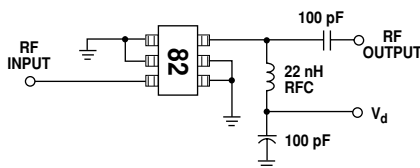
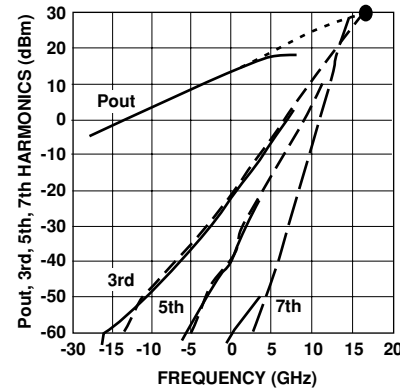
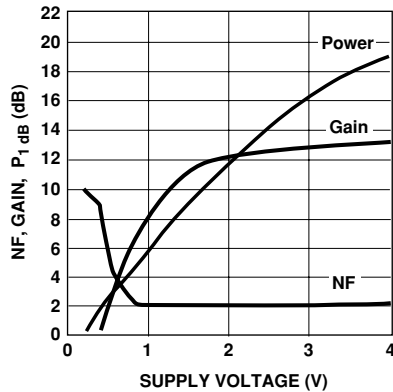

Figure 10. Test Circuit.
Figure 18. Intermodulation Products vs. Input Power. ($V_d = 3.0$ V)
Figure 19. Gain, Noise Figure, and Output Power vs. Supply Voltage.
- Guaranteed specifications are 100% tested in the circuit in Figure 10 in the Applications Information section.
The circuit shown in Figure 10 is used for 100% RF testing of Gain and Noise Figure. The test circuit is merely a 50Ω input/output PC board with a RFC at the output to apply DC bias to the device under test. Tests in this circuit are used to guarantee the NF_{test} and G_{test} parameters shown in the table of Electrical Specifications.
Like other active devices, the intermodulation products of the MGA-82563 increase as the device is driven further into nonlinear operation. The 3rd, 5th, and 7th order intermodulation products of the MGA-82563 are shown in Figure 18 along with the fundamental response. This data was measured in the test circuit in Figure 10.
While the MGA-82563 is designed primarily for use in +3 volt applications, the internal bias regulation circuitry allows it to be operated with power supply voltages from +1.5 to +4 volts. Performance of Gain, Noise Figure, and Output Power over a wide range of bias voltage is shown in Figure 19. (This data was measured in the test circuit in Figure 10.) As can be seen, the gain and NF are fairly flat, but an increase in output power is possible by using higher voltages. The use of +4 volts increases the P_{1dB} by over 2 dBm.